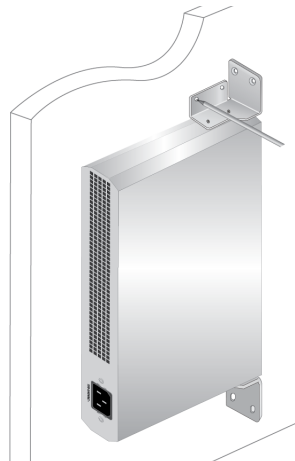

Figure 14. Marking the Screw Hole Locations
5. Have another person hold the switch with the brackets at the wall location where the switch is to be installed, while you use a pencil to mark the wall with the locations of the four holes in the brackets. See Figure 14 as an example.
Figure 14 shows the front panel oriented toward the right side. However, the switch can be mounted on the wall with the front panel facing left, right, up or down.